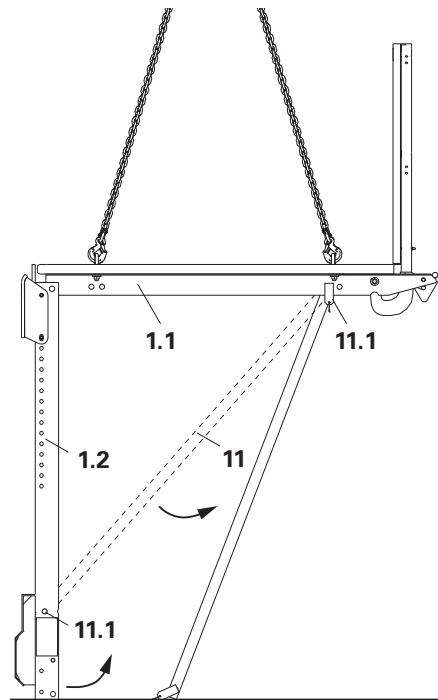

Fig. A2.05
1. Lower platform suspended on the load-bearing points (4) until it rests on level ground and release pins (11.1) on vertical member (1.2). Strut will swing down into vertical position. (Fig. A2.05)